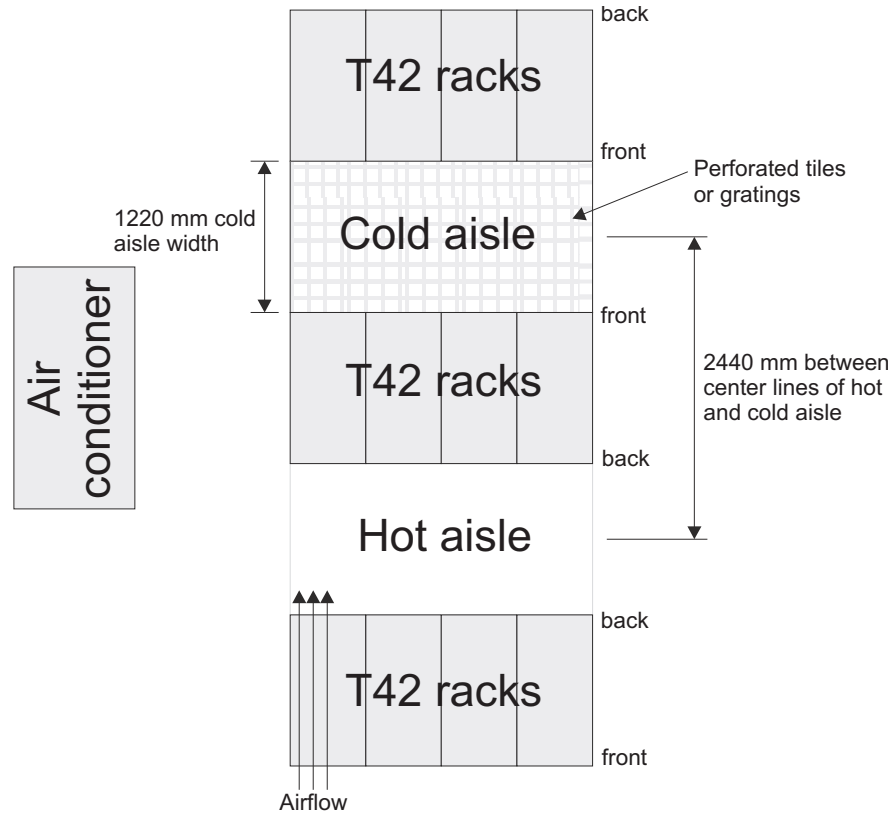

Figure 12. Example of cold aisle/hot aisle rack configuration
- Air enters at the front of the rack and leaves at the back. To prevent the air that is leaving the rack from entering the intake of another piece of equipment, you must position the racks in alternate rows, back-to-back, and front-to-front. This arrangement is known as *cold aisle and hot aisle* and is shown in Figure 12 on page 23.